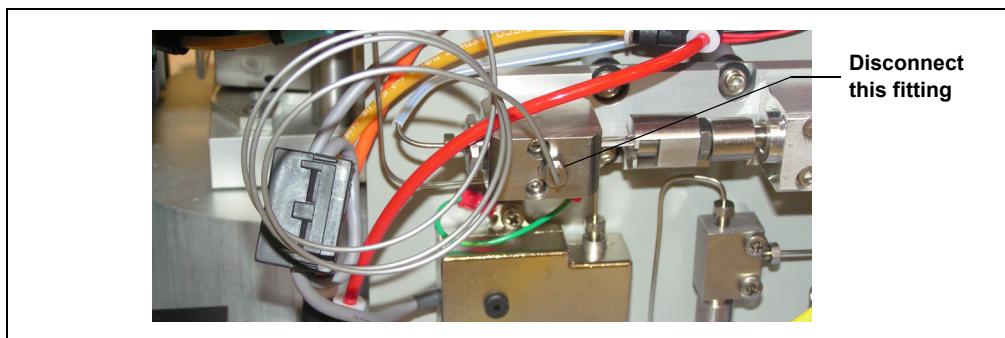

Figure 5-25. Disconnecting the Source Needle Fitting from the Static Valve
6. Use a 1/4-inch open-end wrench to disconnect the fitting on the side of the static valve (see Figure 5-25).